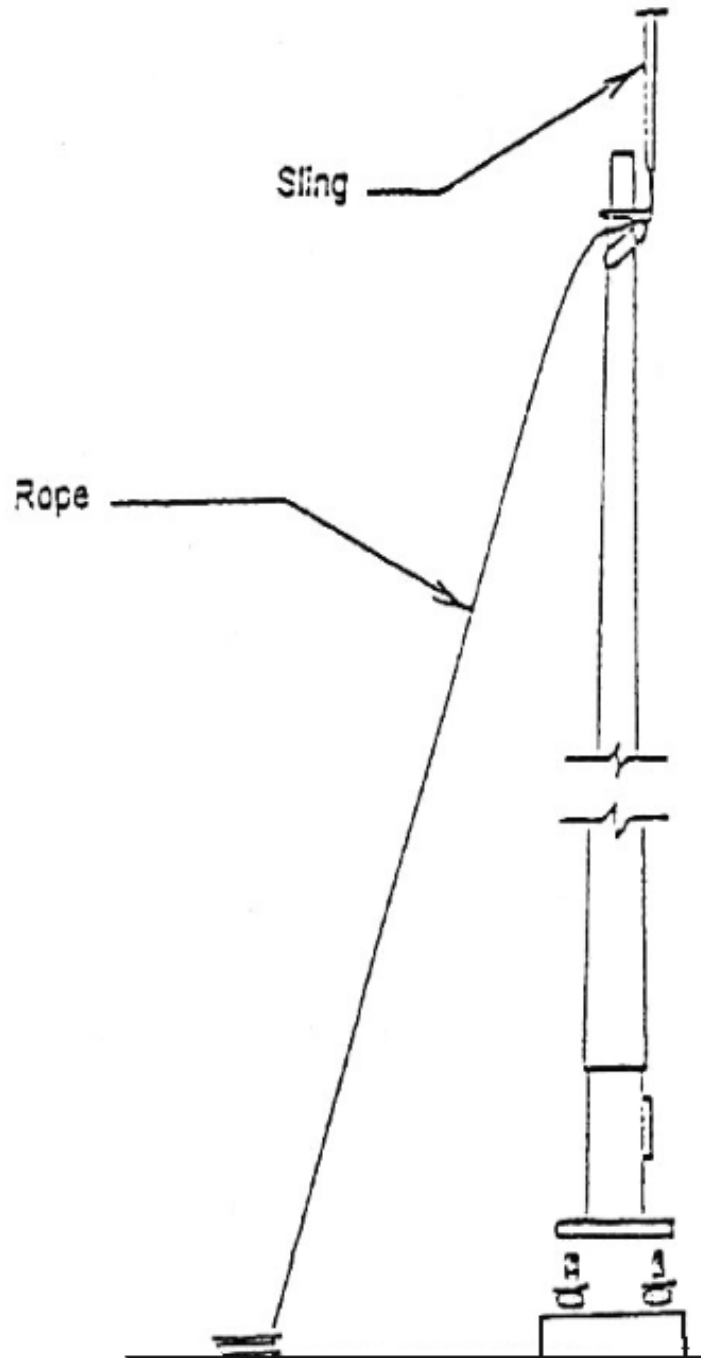

FIGURE 4
7. Position over anchor bolts and set on leveling nut washers if applicable. (FIG.4).